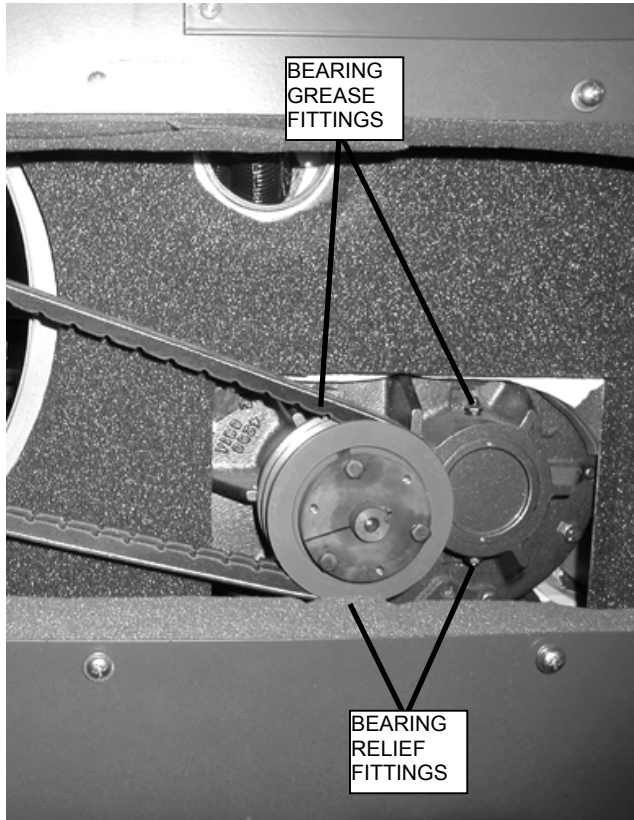

Figure 17. Blower Bearing Grease Fittings.
- d. Grease front-end bearings using a pressure grease gun. Force grease into each bearing grease fitting until traces of clean grease come out of the relief fittings on the lower side of the bearing housing. Refer to Figure 17.